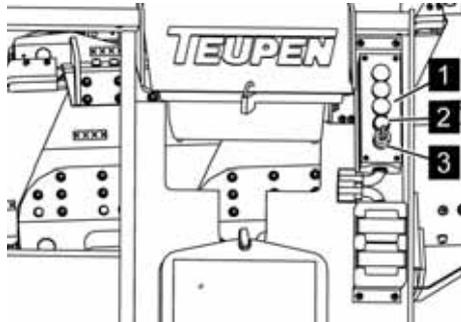

Fig. 46: Toolbar
2. → Press the button (Fig. 46/1) and hold until the control lamp [Pre-heat] (Fig. 46/2) goes out.
3. → Start the diesel engine by turning and holding the key switch (Fig. 46/3) to  and release the toggle switch immediately when the diesel engine has started.